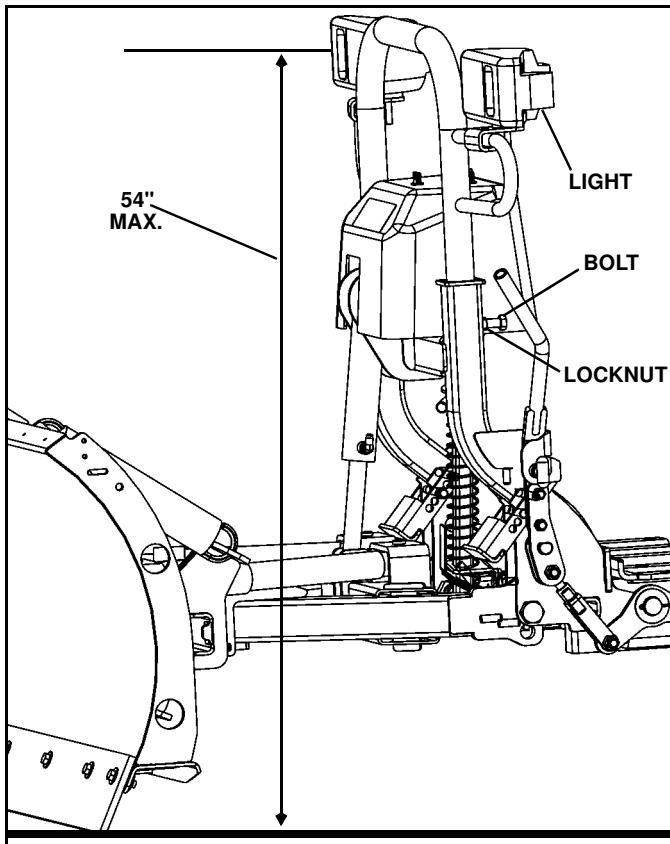

Figure 1-21
28. The height of the light bar is adjustable. Position light bar so that center of lights is 54" maximum off the ground when plow is on the ground. The lights should clear the plow when it is fully raised. (See Figure 1-21).
30. Attach lights onto clamp assembly with washers and nuts. (See Figure 1-21).